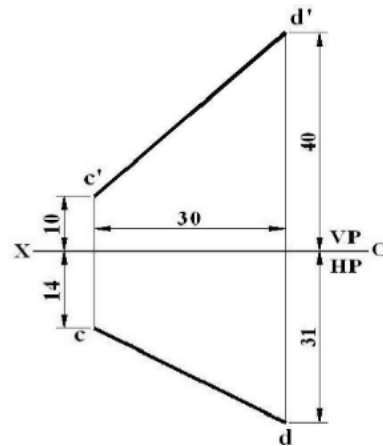

Figure P4.2
2. Orthographic projection of a line is given in **Figure P4.2**. Determine their true lengths and inclinations with the VP using